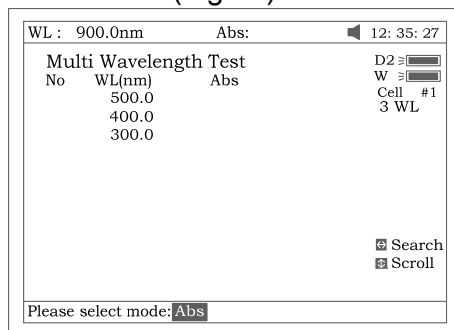

Fig70
2. Press **[F2]** to select mode (Fig 70).